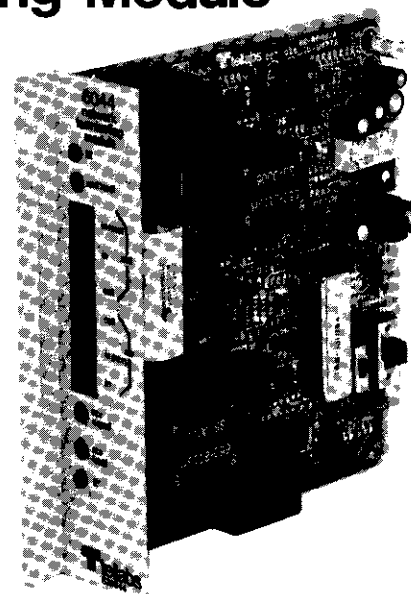

figure 1. 6044 Network Terminating Module
1.01 The Tellabs 6044 Network Terminating Module (figure 1) provides transmission interface and signaling conversion between a 4wire PBX tie trunk or a carrier channel and a 4wire metallic facility. This module provides level control (loss and gain) in the transmit and receive channels, active slope equalization for loaded or nonloaded cable in the receive channel, and extended-range E&M (DX) signaling. Specifically, the 6044 provides DX signaling over simplex leads derived from the 4wire facility, conversion between that DX signaling and terminal-side E&M signaling, and extension of this E&M signaling toward the 4wire termination. The 6044 provides switch-selectable DX1 or DX2 operation with a choice of either Type I, Type II, or Type III E&M-lead interfacing (see paragraph 1.07). As a member of Tellabs' 262U Universal Network Terminating System of modules and enclosures, the 6044 fulfills Registered Facility Interface Codes TC31E, TC31M, TC32E, TC32M, TL31E, TL31M, TL32E, and TL32M for applications where the serving telephone company uses facility-side DX signaling.